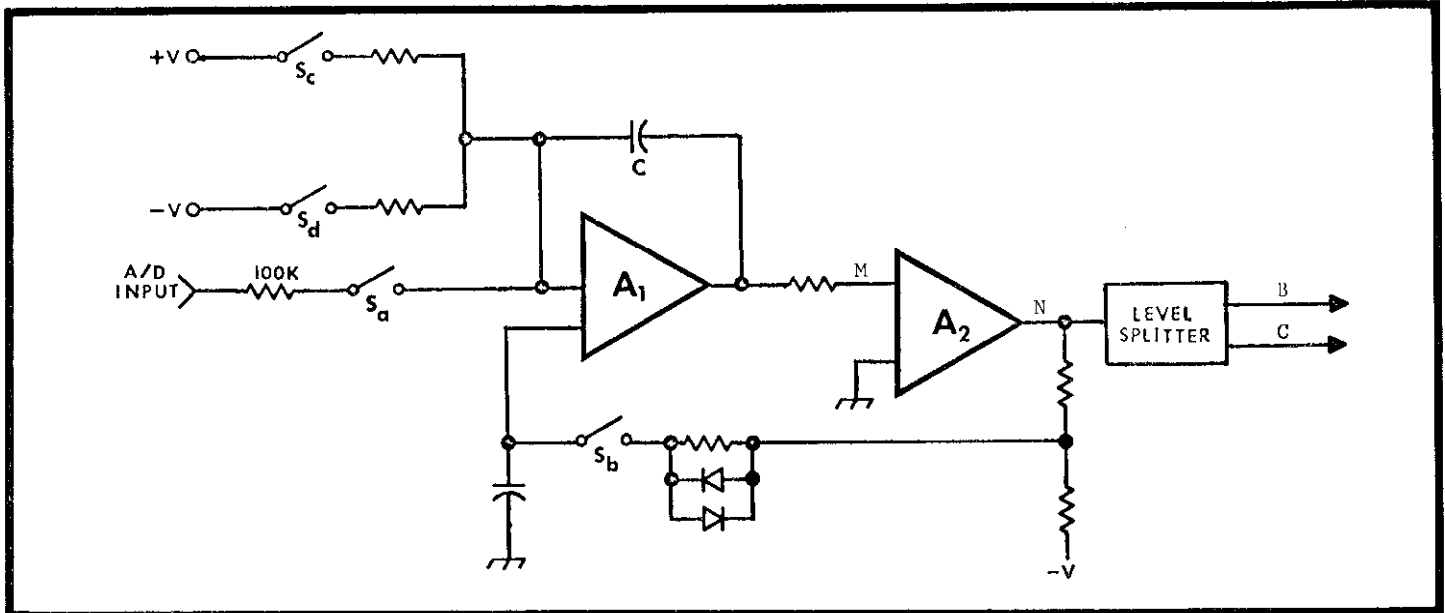

FIGURE 10. Integrator Block Diagram.
1. Zero Period. During this period the integrator amplifier is zeroed by a feedback rezeroing circuit as shown in Figure 10. Switches S_a, S_b, and S_d are open to prevent integrator charging.
1. Integrator Circuit. (Refer to Figure 10 for identification of switches S_a , S_b , S_c , and S_d). The operation of the Integrator is controlled by the positions of switches S_a , S_b , S_c , and S_d . Switch S_a is Q401. Switch S_b is transistor Q411. Transistors Q404, Q405, Q408, Q409, and Q410 are control circuits arranged to control the proper FET switches depending on the signals at pins 12 and 13. The integrator amplifier consists of transistors Q402 and Q403 and integrated circuit QA401. The feedback capacitor is C406. Switches S_c and S_d control the current for 9-volt zener diodes D401 and D402. Resistors R403, R404, R405, R409, R410, and R411 are full-scale calibration resistors. Potentiometers R402 and R408 are internal screwdriver calibration adjustments.
3. Feedback Rezeroing Circuit. This circuit provides rezeroing of the Integrator circuit using negative feedback from the Zero Crossing Detector output. Transistor Q411 is the equivalent of Switch S_b in Figure 10. Resistor R434 and capacitor C414 form a feedback-loop filter circuit. Diodes D407 and D408 provide fast response for large input offsets due to input overloads.